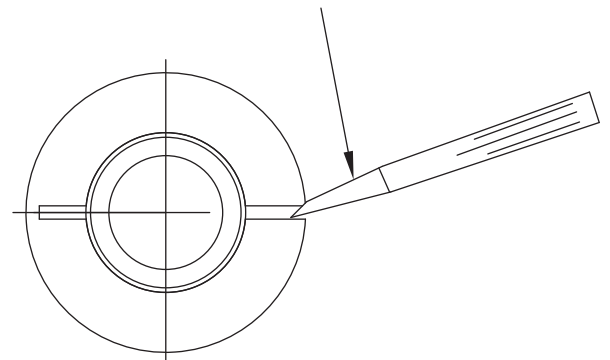

Figure 11
4.2.2.4 Wear spacers are slotted to allow for in-place removal. Using a narrow chisel wedged into the slot in the spacer, as shown in Figure 11, pry the wear spacer until it fractures and is clear to be removed from the stud. Repeat for the remaining spacers in the set that is to be removed (one spacer from each stud location).